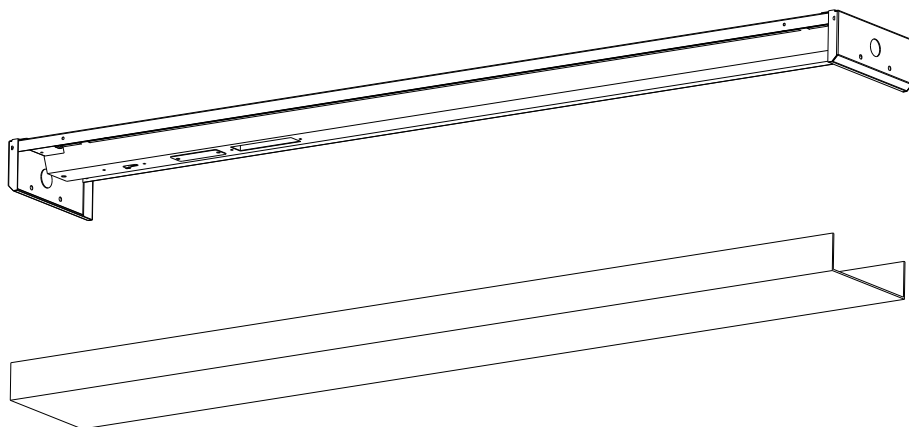

Fig. 1
1. Remove the lens to access the USB-C receptacle. (see Fig. 1).